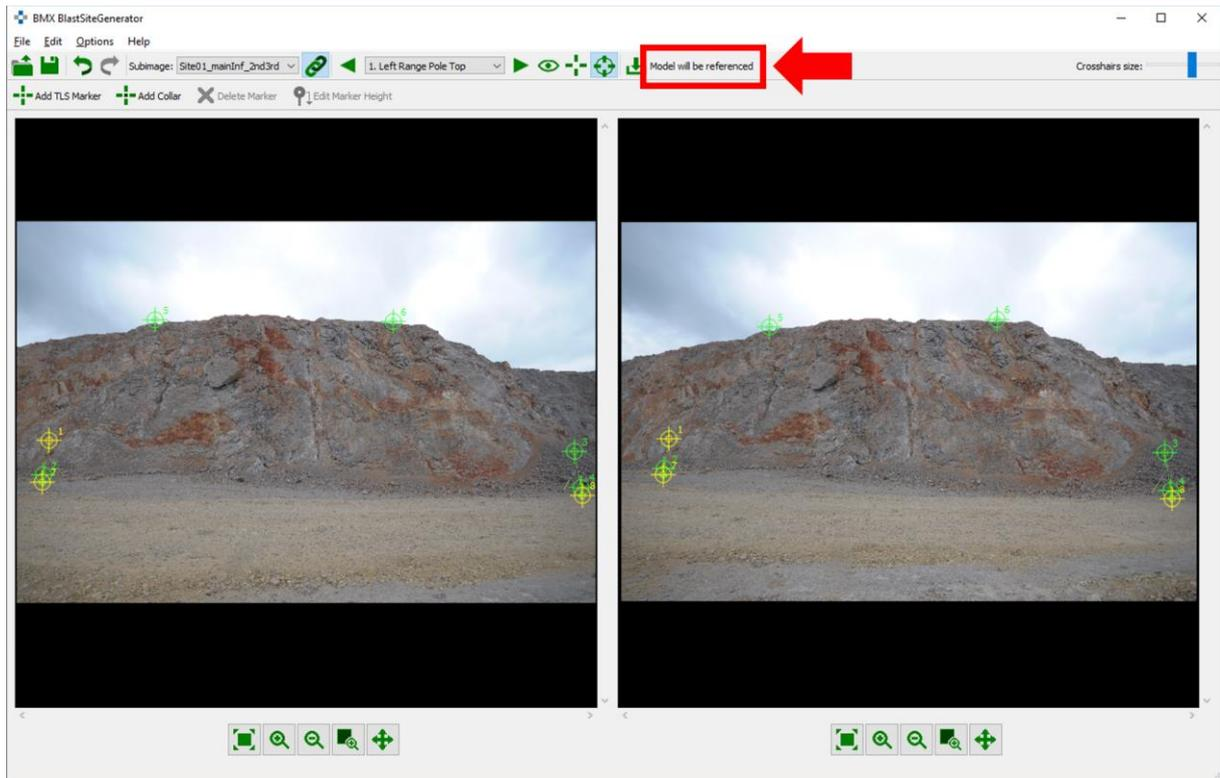

Figure 23: Information insert “Model will be referenced”
5. The information insert “Model will be referenced” in the menu bar indicates referencing of the model (Figure 23).